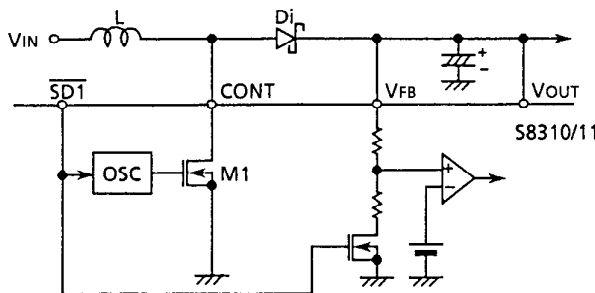

Figure 4
M1 is turned ON or OFF by the CR oscillation circuit. When M1 is turned ON ( $t_{ON}$ ), the energy is stored in the inductor (L); when M1 is turned OFF ( $t_{OFF}$ ), the stored energy is supplied via the diode to the capacitor ( $C_{OUT}$ ) of  $V_{OUT}$  (see Figure 4).
The following are basic equations [(1) through (7)] of the step-up switching regulator (see Figure 4).